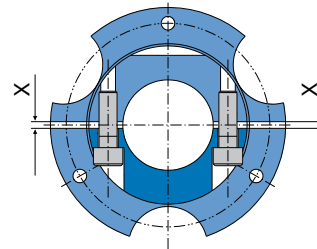

Fig. 96
- Tighten the clamping screws crosswise in several procedures. Please ensure that the gap “X” on both sides of the hub is the same (Fig. 96).